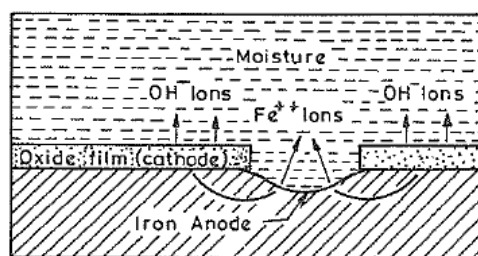

Fig.10.1 – Oxygen absorption mechanism
- ▶ Refer Fig. 10.1 that explains the mechanism of corrosion by means of oxygen absorption.